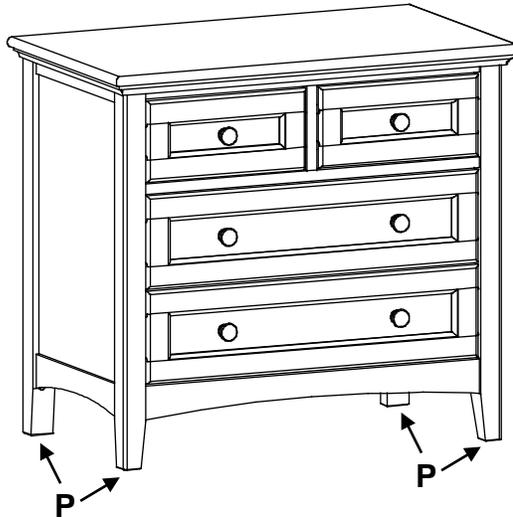

Fig. 2
2. Place the unit at its final destination. Rotate the Small Adjustable Glides (P) on the bottoms of the legs until the unit is level. See Figure 2.